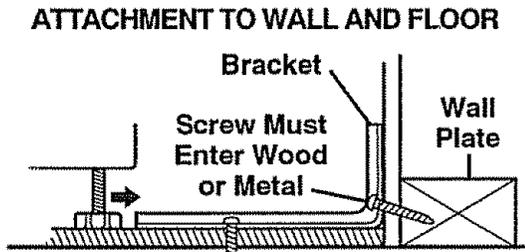

Fig. 2
2. **Wall:** Drill an angled $\frac{1}{8}$ " pilot hole (as shown in **Fig. 2**) in the center of each pre-marked wall hole position (a nail or awl may be used if a drill is not available).
- B. Mount the **ANTI-TIP** bracket with the 4 screws provided as illustrated in **Fig. 2**.